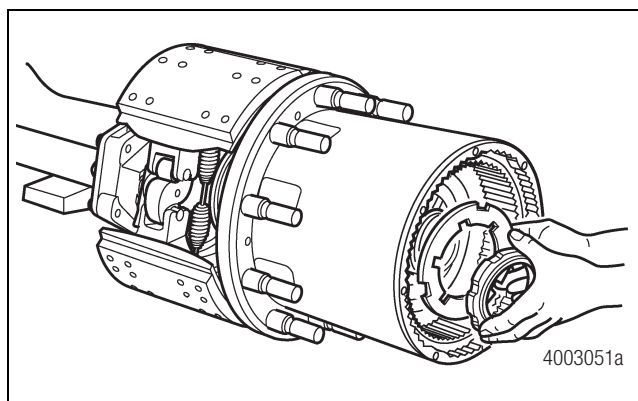

Figure 3.15
3. Remove the wheel bearing adjusting nut and lock washer. Discard the lock washer. Figure 3.15.